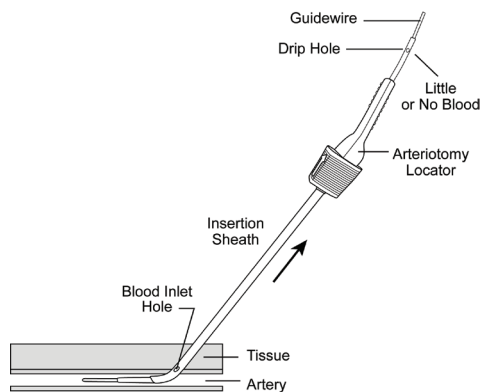

Fig. 3
7. Slowly withdraw the arteriotomy locator/insertion sheath assembly until blood slows or stops flowing from the drip hole. This indicates that the distal locator holes of the Angio-Seal insertion sheath have just exited the artery (Figure 3).